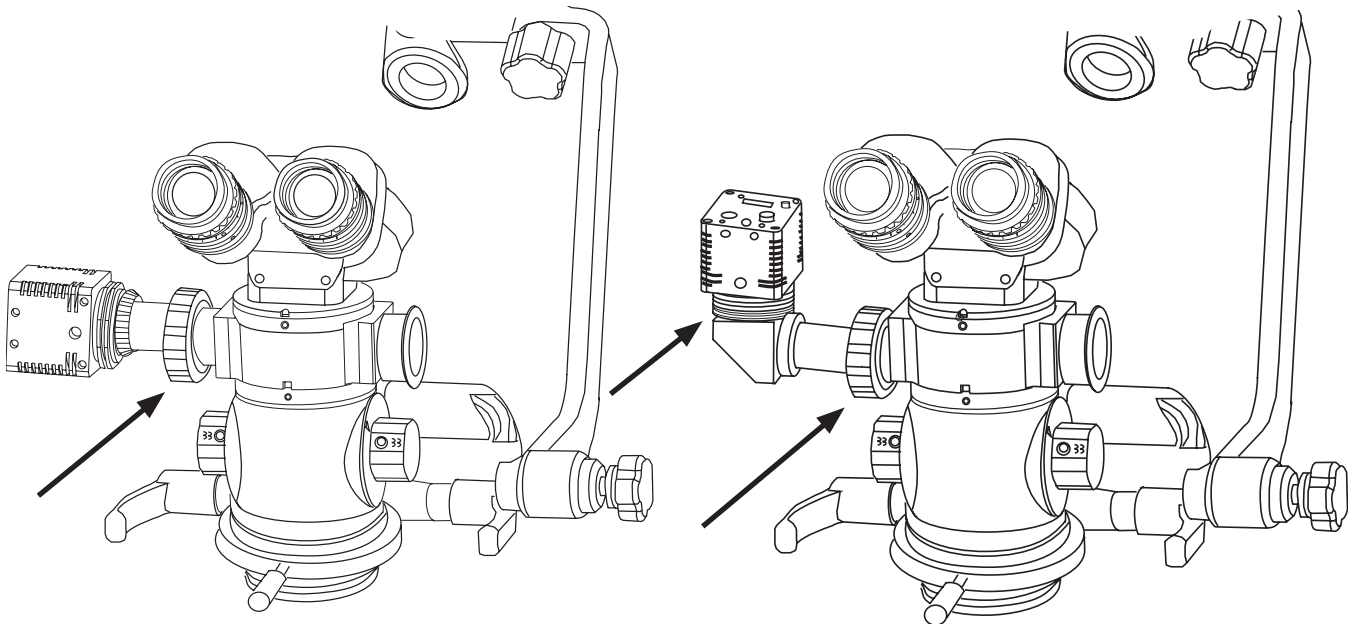

Figure 3-2. Rotation Adjustment Locations
4. If the image is not oriented properly on the monitor (straight up), slightly loosen either the C- mount coupler or the C-mount camera adapter and then rotate the camera for proper orientation. Once the image orientation is correct, tighten the C-mount coupler until secure. See Figure 3-2 for rotation adjustment locations.